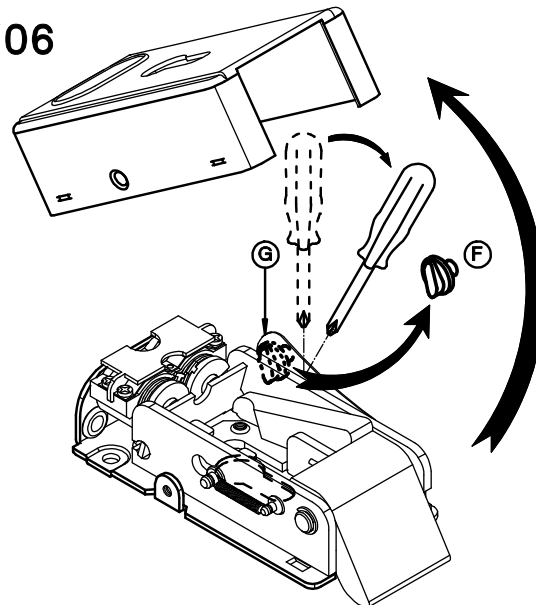

Fig.4
Ⓖ TO ADJUST THE BACKSET OF THE LOCK (ONLY FOR LOCK V9083 WITH ROUND CYLINDER - SEE FIGURE 4)
Ⓓ EINTRITT REGELUNG (NUR FÜR ELEKTROSCHLOSS V9083 MIT RUNDZYLINDER - SEHEN SIE FIGURE 4)
Ⓕ POUR REGLER LA DISTANCE D'ENTREE (SEULEMENT POUR SERRURE V9083 AVEC CYLINDRE ROND - VOIR FIGURE 4)
(GB) HOW TO CHANGE OPENING FUNCTION (ONLY FOR LOCKS V06 AND V9083 - SEE FIGURE 4)
(D) ÖFFNUNG ÄNDERUNG (NUR FÜR ELEKTROSCHLÖSSER V06 ET V9083 - SEHEN SIE FIGURE 4)
(F) MODIFIER LA FONCTION D'OUVERTURE (SEULEMENT POUR LES SERRURES V06 ET V9083 - VOIR FIGURE 4)